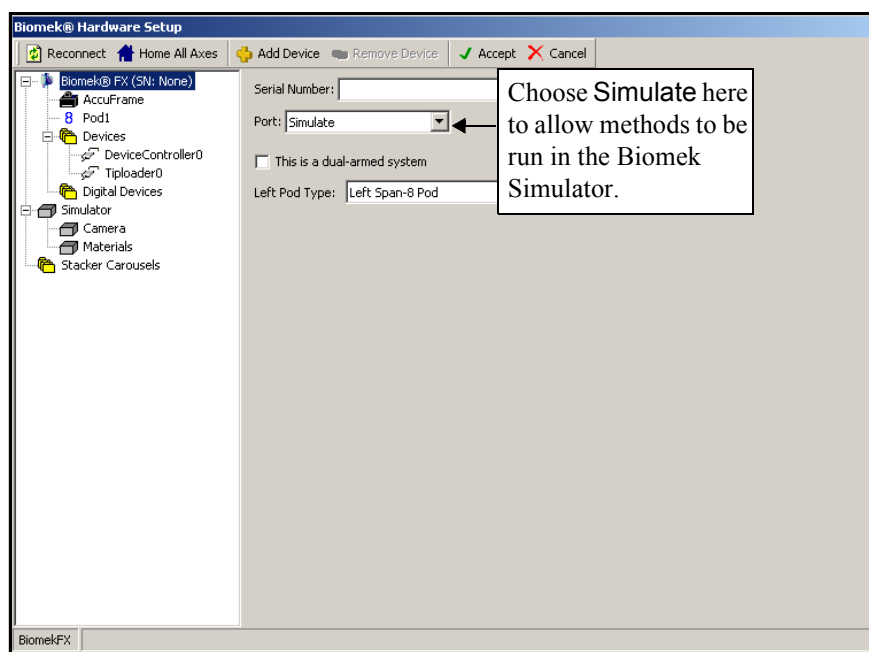

Figure 5-15. Hardware Setup
When a method is run in simulation, the Biomek Simulator appears, showing an animated 3-D model of the instrument performing the method. Setting the simulation mode is configured in Hardware Setup (Figure 5-15).
1. From the toolbar, choose **Instrument>Hardware Setup**. Hardware Setup appears (Figure 5-15).